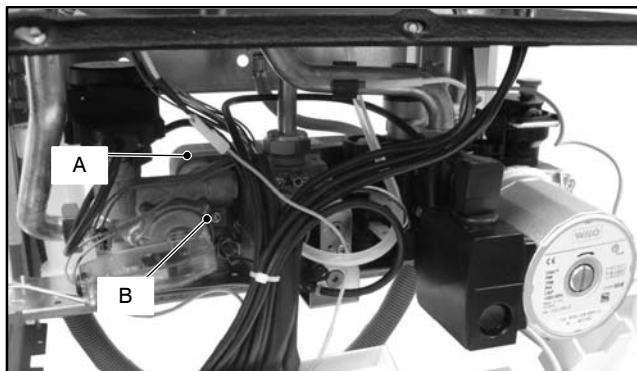

Fig. 6.3
The d.h.w. heat exchanger A in Fig. 6.1 and Fig. 6.3 allows the instantaneous transfer of heat from the primary hydraulic circuit to the water destined for d.h.w. use.
- 3 Completely unscrew the Allen key screws B (Fig. 6.3) which hold the exchanger to the brass group.